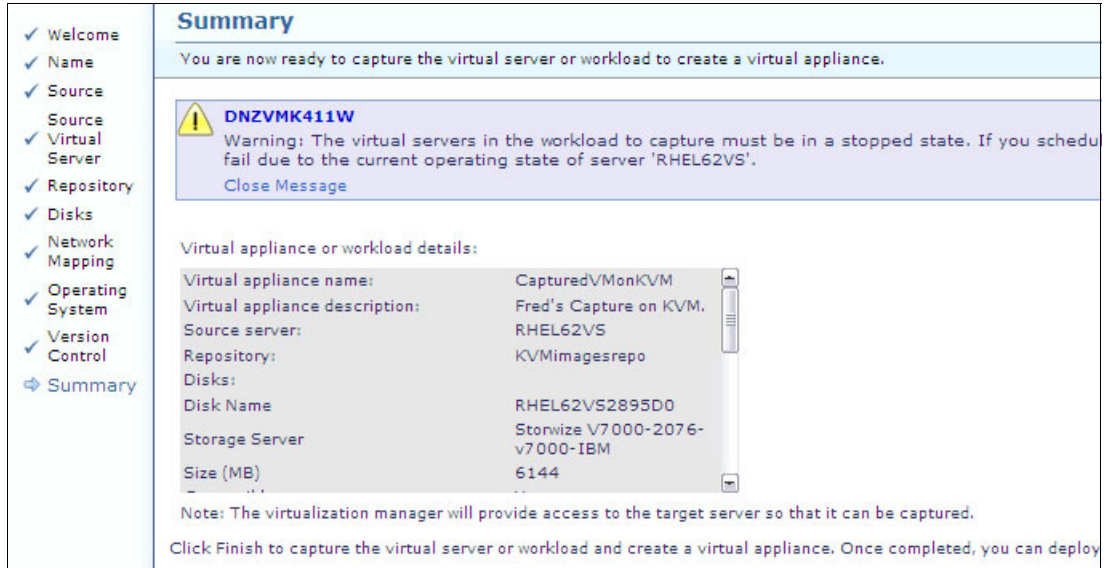

Figure 9-150 Virtual server capture summary
11. Review the summary as shown in Figure 9-150. You cannot capture a running server.